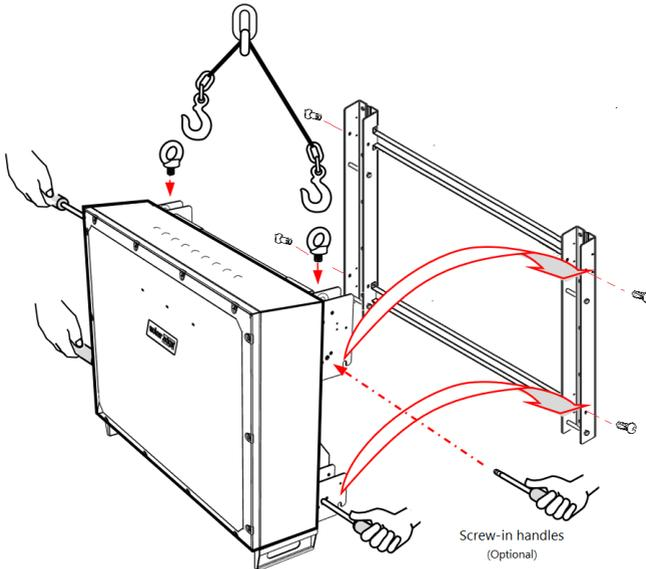

Figure 19: Mounting the inverter before wiring is laid down
1. If optional screw-in handles are used, anchor the screw-in handle to any point at the inverter (see *Figure 19*).
4. Align the four hangers on the back inverter enclosure with the mounting bracket and lower the inverter until it rests on the bracket evenly (see *Figure 19*).
6. Align the four hangers on the back inverter enclosure with the mounting bracket and lower the inverter until it rests on the bracket evenly (see *Figure 19*).